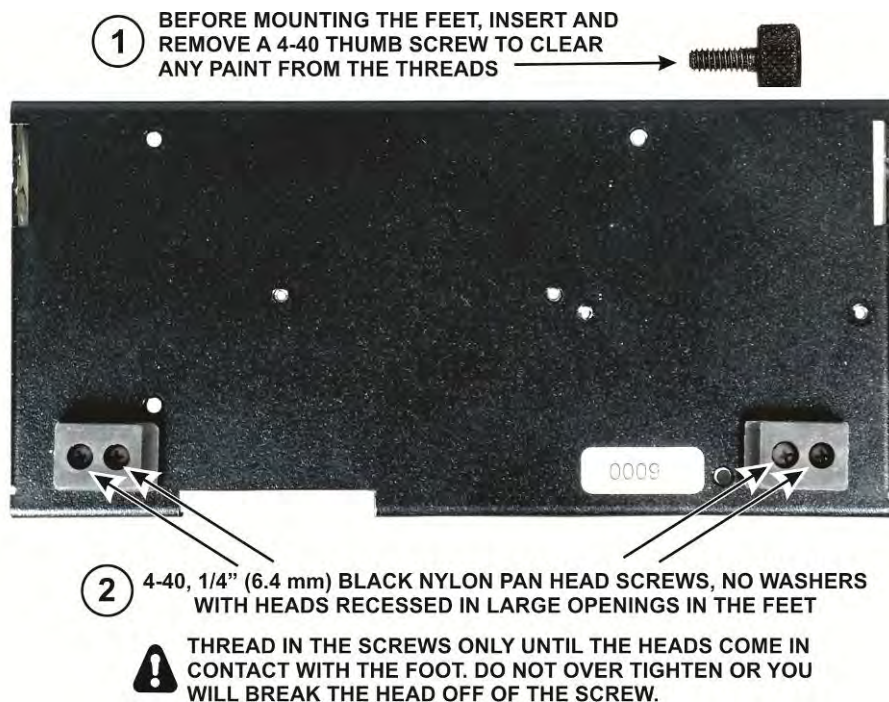

Figure 28. Mounting Rubber Feet on Bottom Cover.
- Mount two of the four rubber feet on the bottom cover using **nylon** screws as shown in Figure 28. First clear any paint out of the threads with one of the black 4-40 thumbscrews. Orient the feet so that the heads of the screws are recessed in the large openings in the feet.